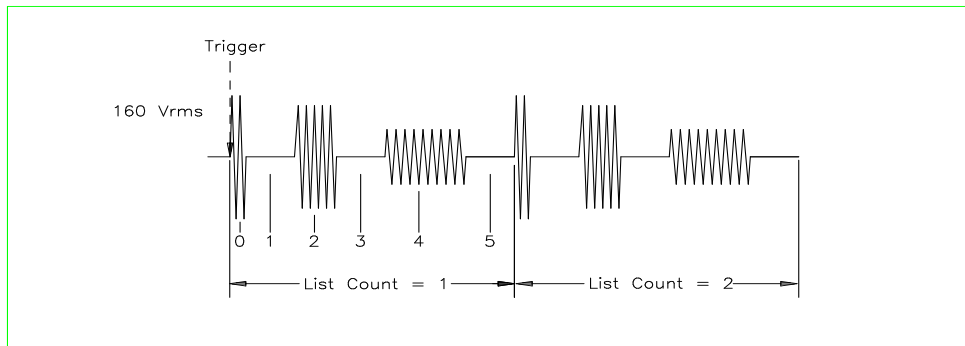

Figure 7-3. List Transients
List transients provide the most versatile means of controlling the output in a specific manner as they allow a series of parameters to be programmed in a timed sequence. Figure 7-3 shows a voltage output generated from a list. The output shown represents three different AC voltage steps: 160 volts for 33 milliseconds, 120 volts for 83 ms, and 80 volts for 150 ms, separated by three intervals of zero volts for 67 ms. The list specifies the pulses as three voltage points (point 0, 2, and 4), each with its corresponding dwell points. The intervals are three zero-voltage points (point 1, 3, and 5) of equal time duration. The count parameter causes the list to execute twice when started by a single trigger.
11. Tap the START field in the RUN menu of the TRANSIENTS screen. The transients list will be executed two times, as shown in Figure 7-3. The power source will remain at the last programmed value of the list (zero volts in this example).